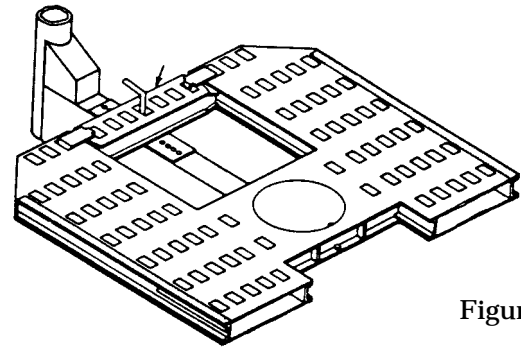
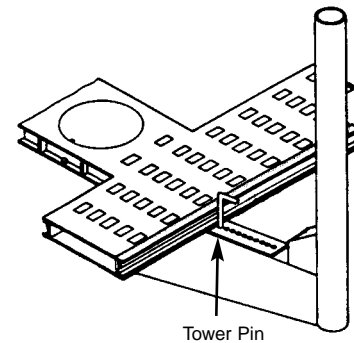
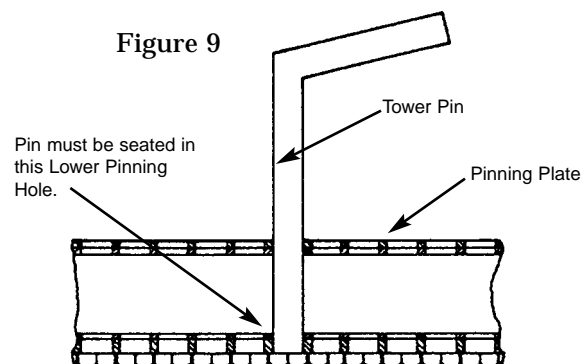

Figure 7
Figure 8
Figure 9
When movable crossmembers are used in front or rear sections of machine, crossmember locks (see Figure 8) must be used to prevent unintentional movement.
1. Swing tower to desired lateral pulling angle and pin it to mainframe or movable crossmember. (See Figure 7.) Tower pin can be used in any tie down hole or along edge of machine. (See Figure 8.) DO NOT position tower pin in front of or at rear of movable crossmember as it will apply excessive stress to crossmember locks. Instead, install tower pin through crossmember tie down hole. (See Figure 7.) Tower pin must be fully seated in lower pinning hole to avoid damage to top pinning hole. (See Figure 9.)